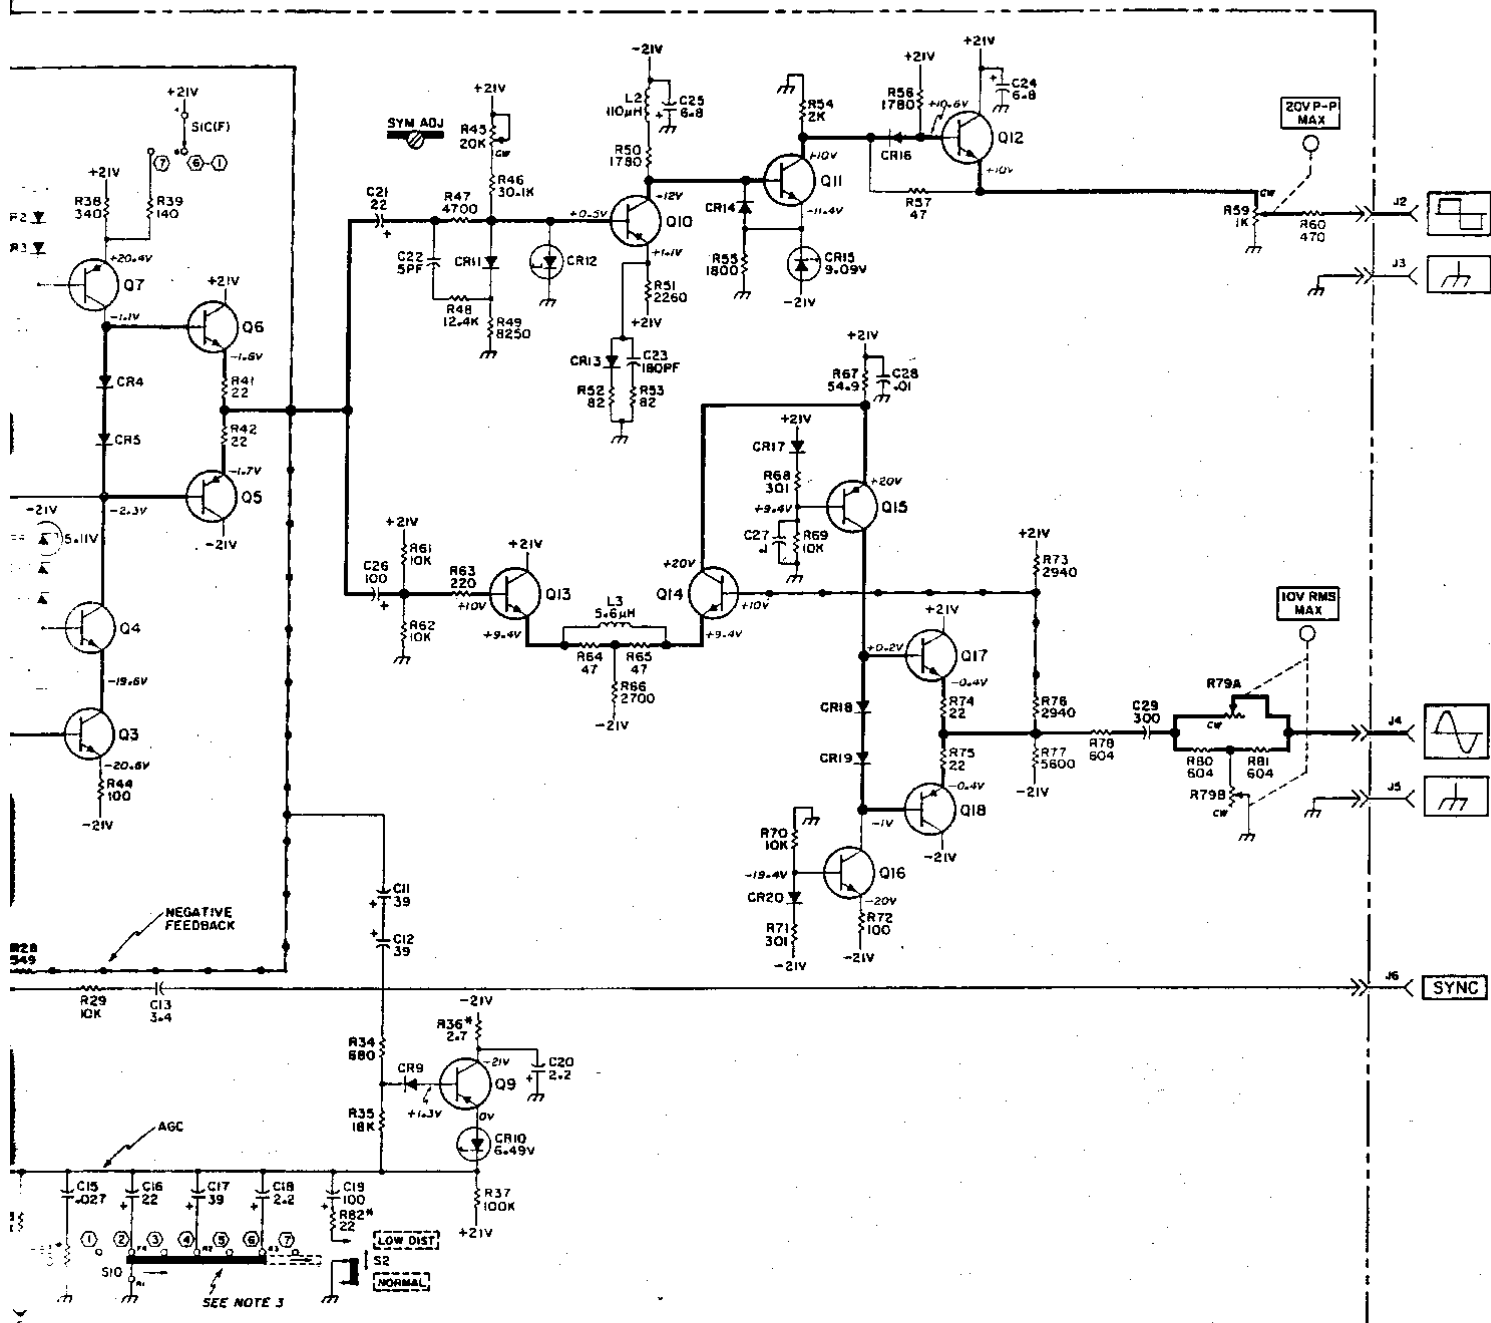

Figure 7-1. Oscillator Schematic (A1)
- Figure 7-1: Delete A1C30\*.
- Figure 7-1: